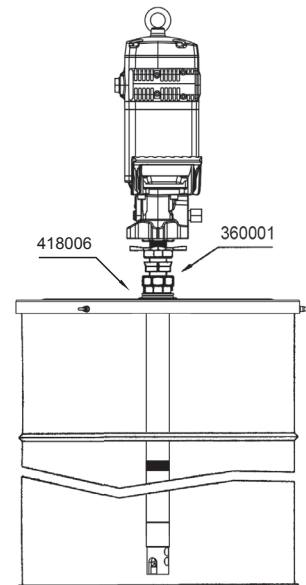

Fig. 3
- **b.** Mounting with cover (418006 for 185 kg drum and 418016 for 50 kg drum) and bung adaptor 360001. Fasten the cover onto the drum and screw the nut of the bung adaptor securely into the 2" bung opening of the cover. Insert the pump through the nut and adjust it with the star nut to the desired height (see figure 3).